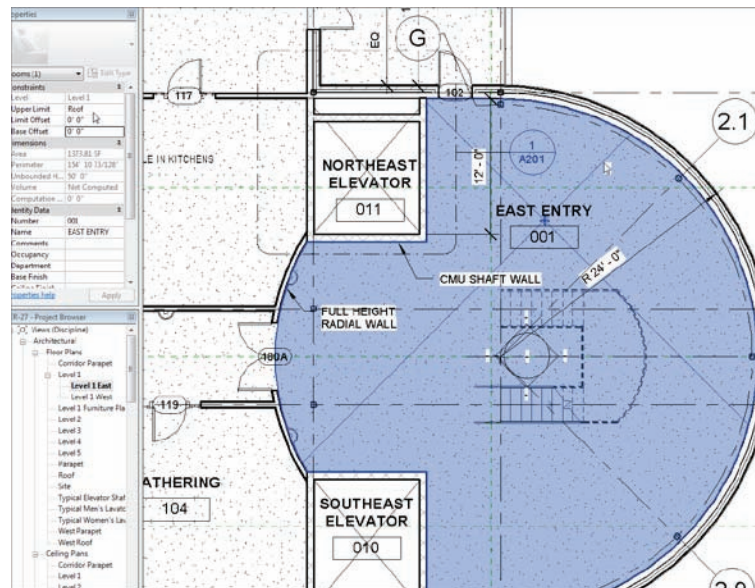

FIGURE 15.10 Selecting the east entry room
1. Zoom in on the east entry area and select the room, as shown in Figure 15.10.